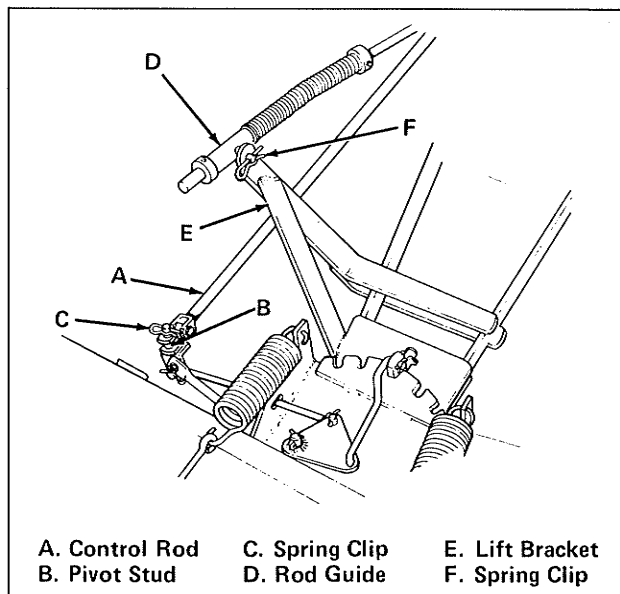

Figure 3. Attaching Control and Lift Arm
8. Position fork assembly of control rod (item A, figure 3) over pivot stud (item B). Be sure handle on other end of control rod points down. Secure with spring clip (item C).